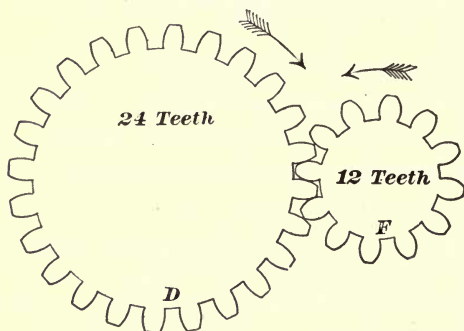

FIG. 153.—Ratio of Gears.
**339. Ratio of Gears.**—Suppose we have two shafts, *D* and *F*, as shown in Fig. 153 and that we want to connect these shafts by gears so that shaft *D* will make one revolution while shaft *F* makes two.